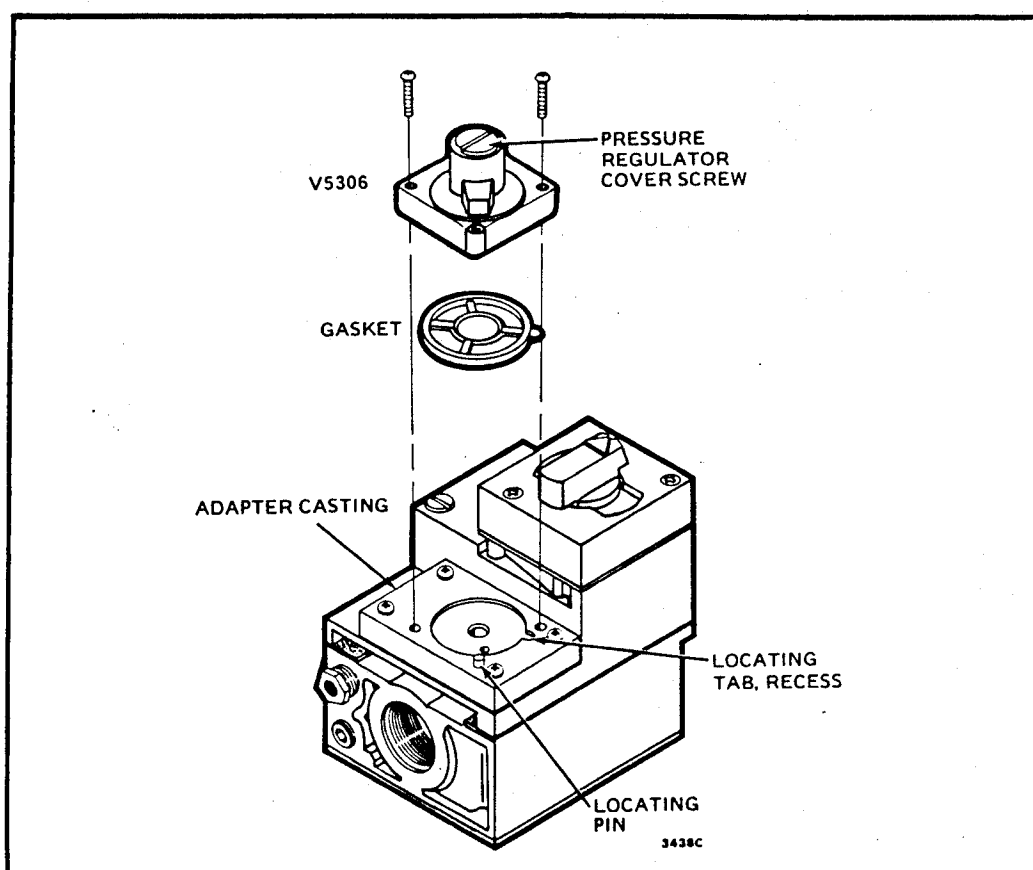

Fig. 14—Installing regulators on manual Pilotstat power unit manifold controls with operator adapter casting.
4. Remove the pressure regulator cover screw, Fig. 14. Using a screwdriver, turn the adjustment screw clockwise  to increase the gas pressure to the burner, counterclockwise  to decrease the gas pressure to the burner.